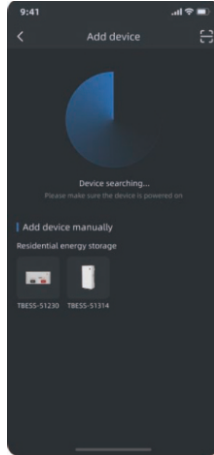

Figure 1
- 1) Figure 1: After enabling Bluetooth on the phone, start searching for Bluetooth signals from surrounding devices and try to add them as close to the device as possible. You can also click "manually add" or "scan code to add" to switch the adding method.